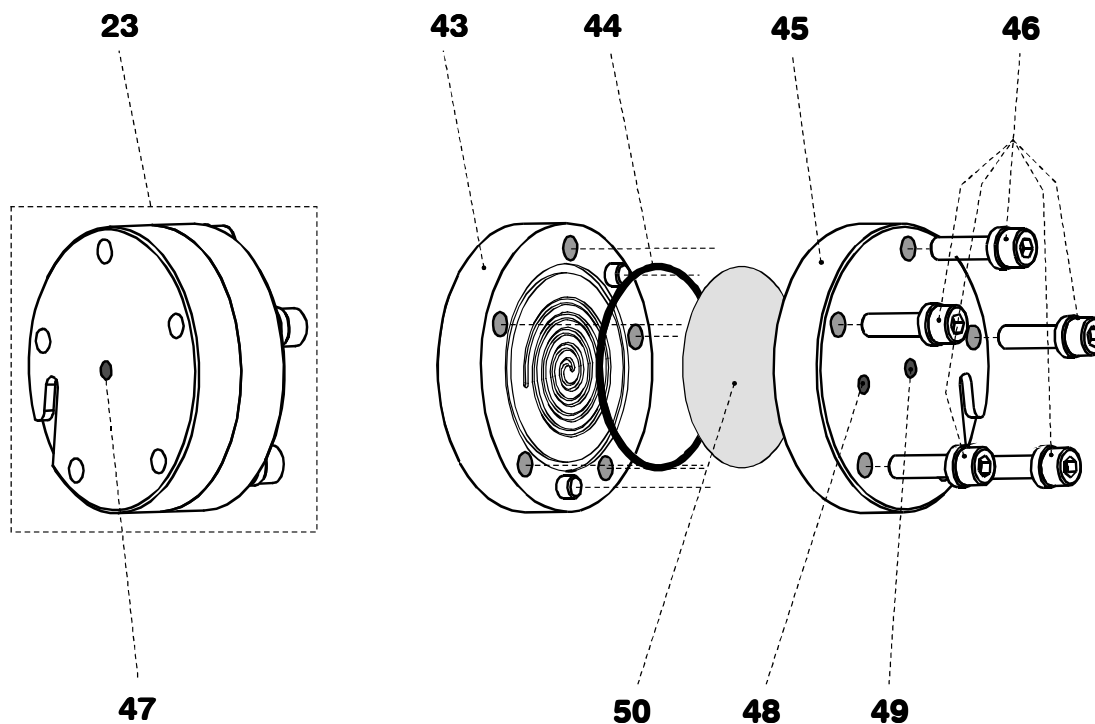

Fig. 9: Assembling the ultra-filtration cell
- Screw this PEEK capillary with the PVDF compression fitting to inlet opening **48** of the bottom part of the cell (see Fig. 9).
- Screw this end of the PTFE capillary with the PVDF compression fitting to outlet opening **49** of the bottom part of the cell (see Fig. 9).
- Screw this PTFE capillary with the PVDF compression fitting to outlet opening for the filtrate **47** of the top part of the cell (see Fig. 9).